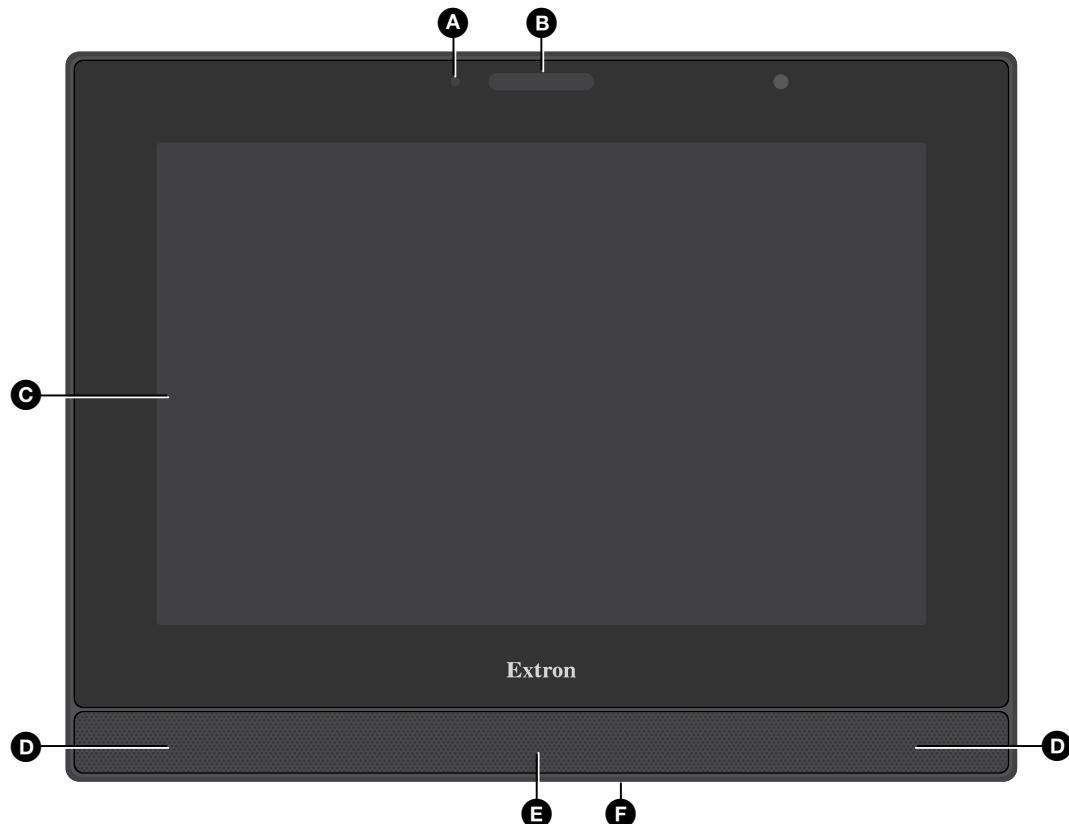
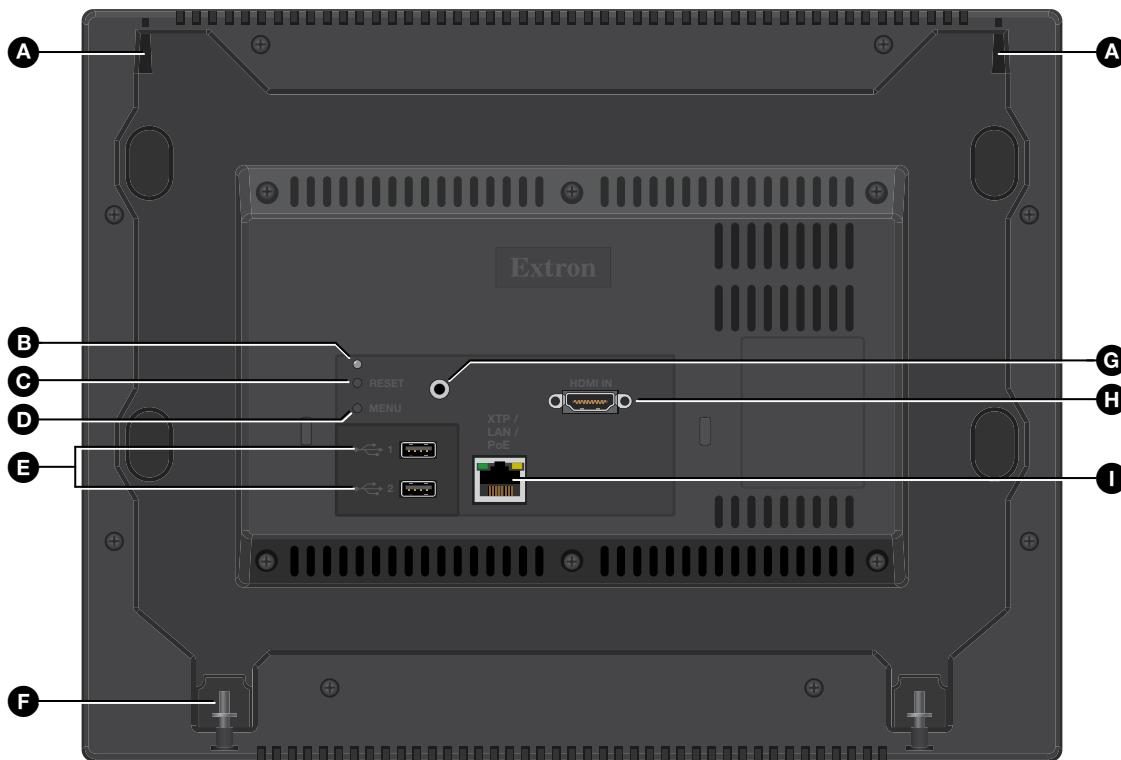

Figure 2. TLP Pro 1225MG Front Panel
Figure 3. TLP Pro 1225MG Rear Panel
Figure 2 shows the TLP Pro 1225MG front panel diagram. The TLP Pro 1525MG features are very similar.
- Connect a second straight-through cable (**2**) from the power injector to the TLP Pro touchpanel XTP/LAN/PoE connector (see **figure 3, 1**, on page 4). This cable carries the network information and 48 VDC from the power injector to the touchpanel.
- Use factory firmware:** Use this mode to replace firmware in the event of firmware failure. Press and hold the **Reset** button (see **figure 3, C**) while applying power to the unit.
Press the **Menu** button (**figure 2, F** on page 3 or **figure 3, D**, on page 4) to open the setup menu. Select any of the six available screens (**Status**, **Network**, **Display**, **Audio**, **Input** and **Advanced**) by pressing the appropriate button in the navigation bar at the top of the screen (for more information, see the *TLP Pro 1225 and TLP Pro 1525 Series User Guide*).